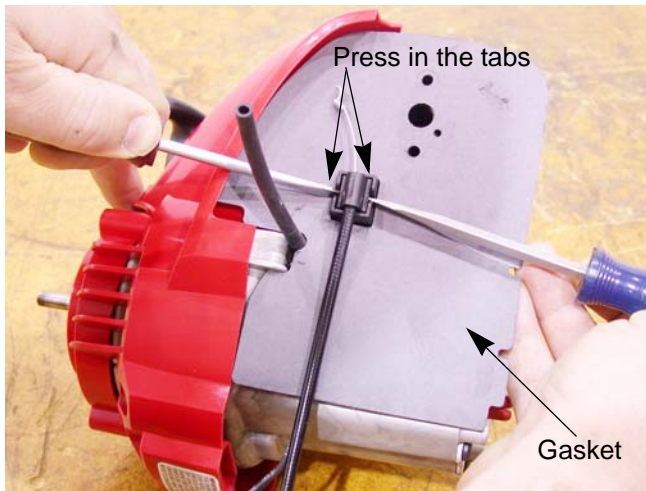

Figure 5.30
2. Remove the throttle cable by pressing in the tabs located in the slots while lifting the cable out. See Figure 5.30.